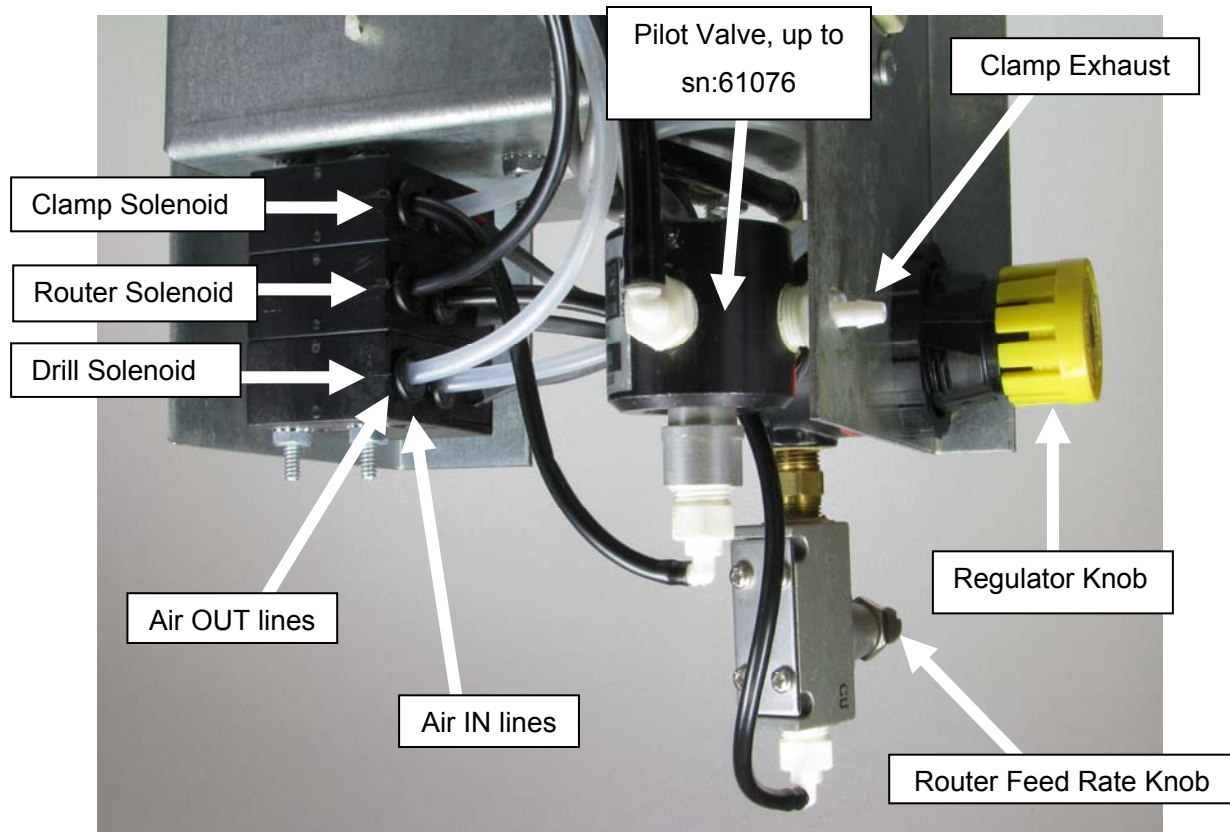

Fig 13
2. Swap the "Air Out" lines between the Router Solenoid and the Drill Solenoid. **See Fig 13.**